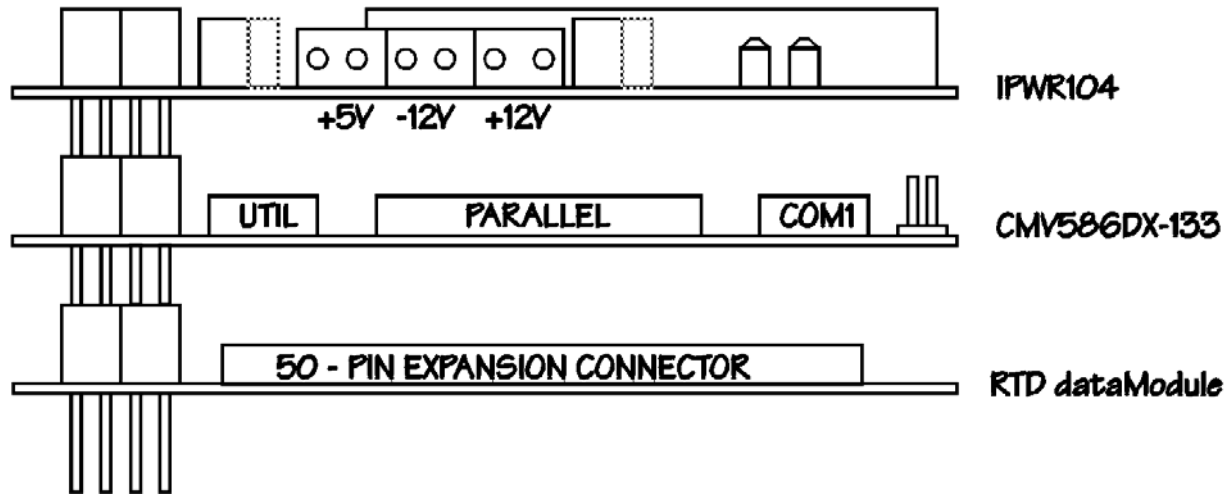

Fig. 1-1: IPWR104HR integrated in a RTD PC/104 cpuModule stack
- Fig. 1-1: IPWR104HR integrated in a PC/104 RTD cpuModule stack**